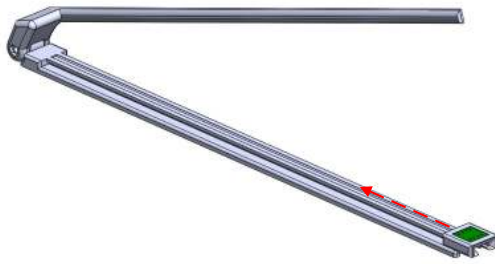

Figure 3-9. Adding SENS093_Sensor
3. Slide the SENS093_Sensor into the SENS093_Track as shown in Figure 3-9.